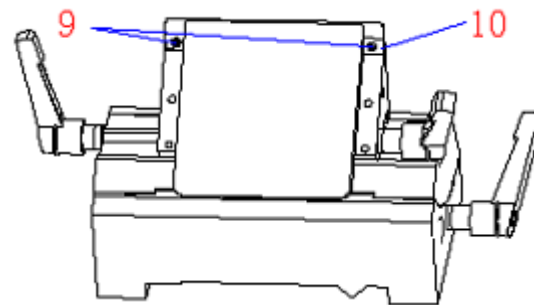

Fig 22
It uses disposable blade in picture. Blade can be divided into two types: low & high profile. If the high profile blade is needed, twist the four screws (7) out with 3mm Allen key, then take out anti roll plate module (8), twist out the two screws (9) on base plate (10). As showed in fig 22. After inserting the blade, re-fix the anti-roll plate module (8) with the four bolts (7).